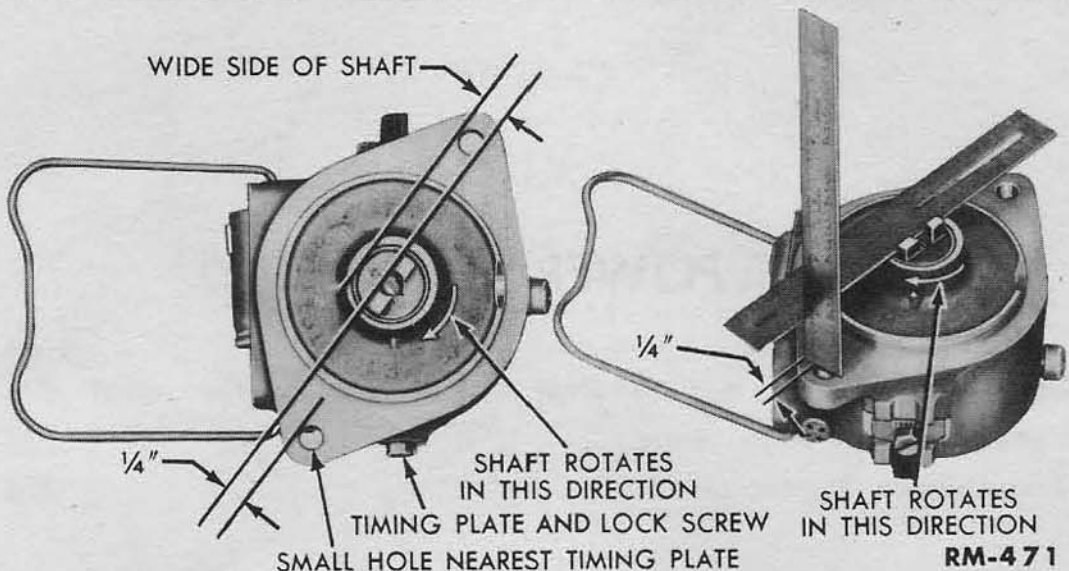

Fig. 58—Timing Adjustment
c. Adjust Basic Timing. Be sure that the contact gap is correct, as described above. Place a scale against the tang on the wide side of the distributor shaft, and rotate the shaft until the scale is $\frac{1}{4}$ inch from the rear side of the small mounting hole (fig. 58). With the distributor shaft in this position, the contacts should be just starting to open. Move the adjustment plate on the left side of the distributor down to advance the timing, or up to retard the timing. If the proper timing is not attained in the first attempt, turn the distributor shaft back at least $\frac{1}{4}$ turn to eliminate backlash, then repeat the check.